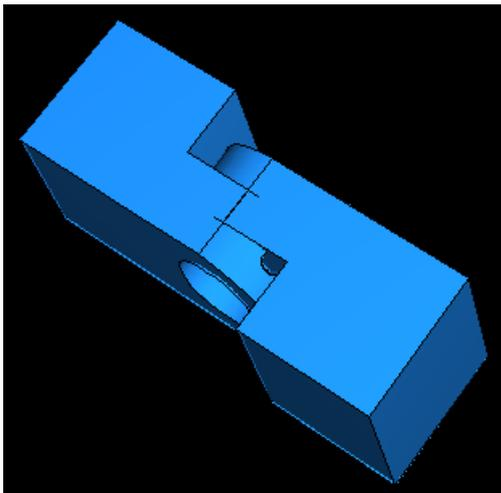

Figure C-29 Position 2: Constrain the two flange holes to lie along the same axis.
10. Use the rotate tool  to look at the top view of the two pieces. Notice that the two flanges are now overlapping, as shown in Figure C-29.